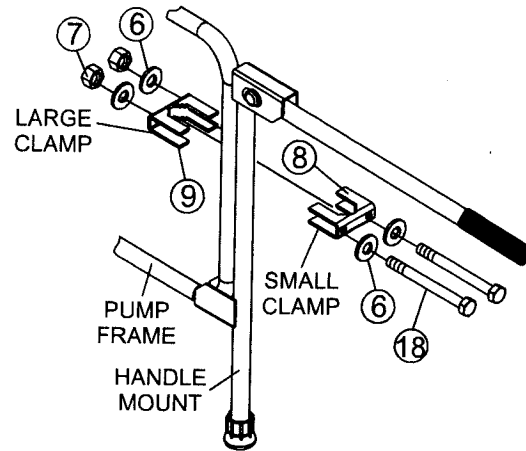

Figure 4. Securing Handle Mount to the Frame
7. Insert the end of the handle tube (item 13) with the screw hole into the top bracket of the handle mount. Slide a clevis pin (item 10) and flat washer (item 11) through the bracket and handle tube holes. Place another flat washer on the end of the clevis pin. Insert a cotter pin (item 12) through the hole in the clevis pin to secure the handle tube to the handle mount.
8. Slide the hand grip (item 14) over the open end of the handle tube.
9. Lifting the front of the unit, set the rounded corner of the frame tubing into the support bracket on the handle mount (Figure 4). Secure the handle mount to the frame tubing by placing a large clamp (item 9) around the frame tubing and the handle mount. See Figure 4.